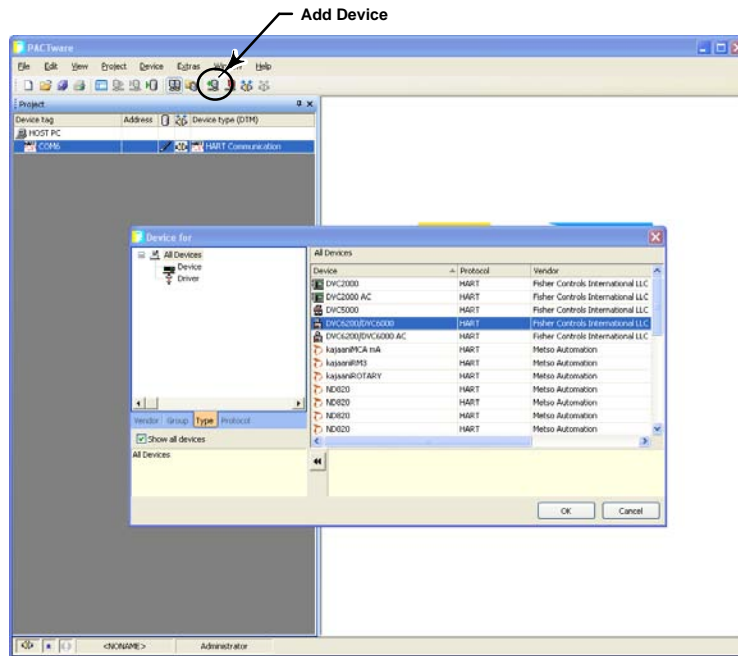

Figure 5-2. Select the DeviceDTM
**Step 3:** With the CommDTM highlighted, select Add Device, as shown in figure 5-2, and click on the appropriate Device DTM. Select OK.